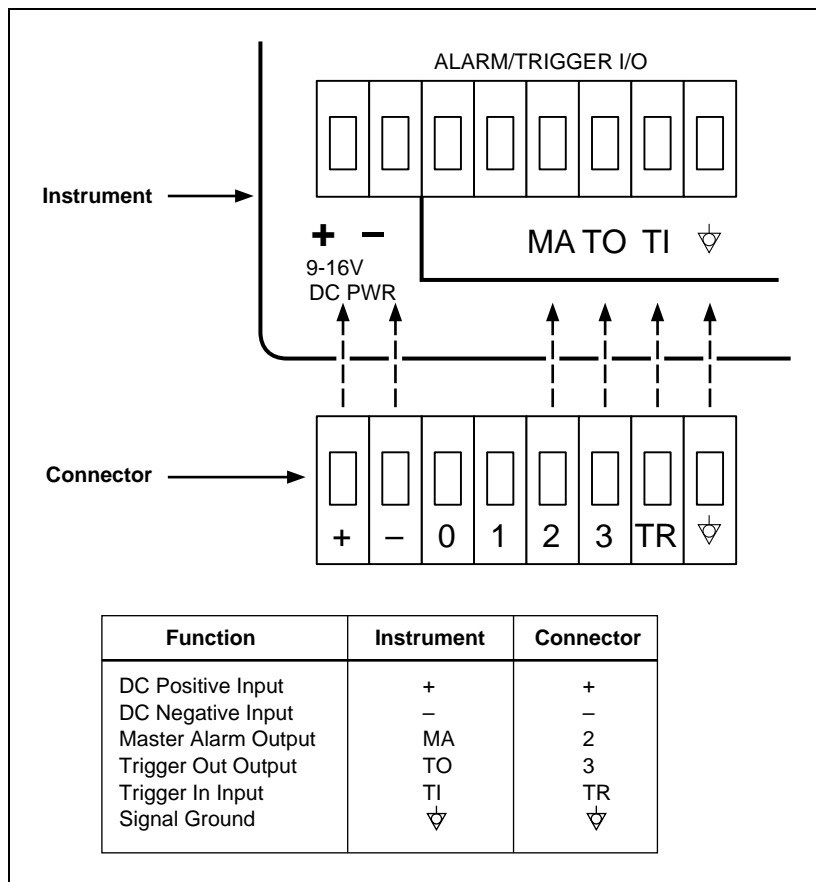

Figure 2-6. ALARM/TRIGGER I/O Connector
The eight-terminal ALARM/TRIGGER I/O connector (Figure 2-6) on the rear panel of the instrument provides connections to Trigger In (TI), Trigger Out (TO), and Master Alarm (MA) I/O lines along with a common ground connection. (See the "Trigger Input," "Trigger Output," and "Master Alarm Output" discussions in Chapter 1 for additional information.) The dc power connection is also on this connector. (See "DC Power" above.)